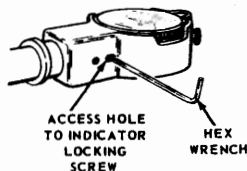

FIGURE 10
1. See Figure 10. Insert a 3/32" Hex Wrench through Access Hole and loosen Indicator Locking Screw 1/2 turn (no more).